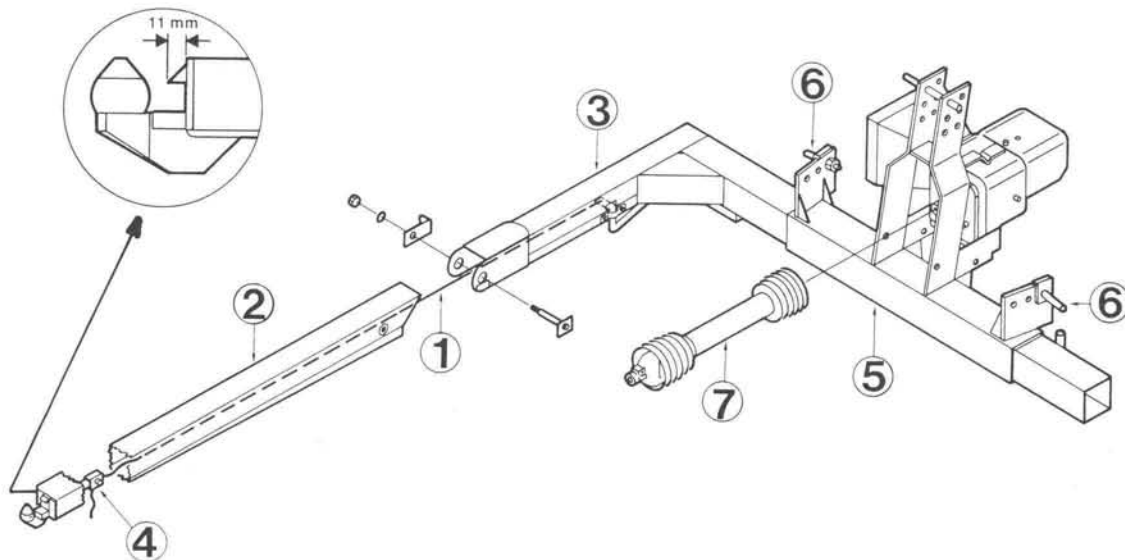

Fig. 5
Disconnection is made by removing the swivel head regulation system and the power take-off shaft from the tractor. Then the suspension hoop is lowered, until the machine is standing on the ground. Now the lock pawl in the front connection point can be released by pulling the wire. When the suspension hoop is raised again at the same time as the wire is pulled, the machine is released from the suspension hoop, and the tractor can now drive away from the machine. If the pawl cannot get free, the wire length must be controlled and maybe adjusted according to Fig. 5 item 4. When driving away, it should be secured that the trailer goes clear of forage harvester and swivel head regulation.